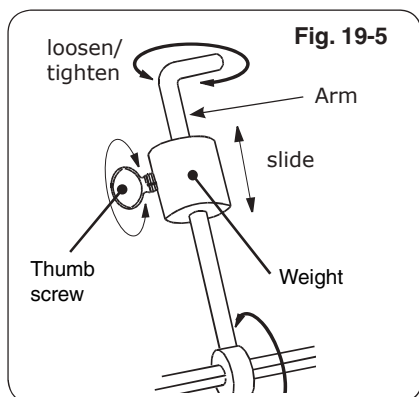

Fig. 19-5
9. Slide the counterbalance weight up or down the arm until the rod rotates most evenly then tighten thumb screw (Fig. 19-5 and Fig. 19-6).